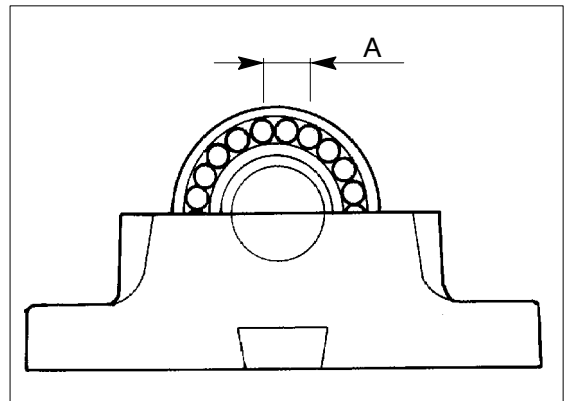
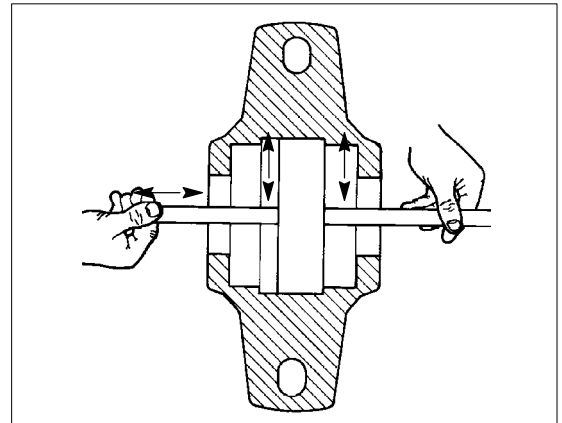

Fig. 31. Push the feeler gauge between the rollers and outer ring.
Fig. 32. Measuring the clearance.
2. Remove the fastening bolts (M10) (7) and the upper bearing housings (6).
5. Bend the claw of the securing ring (3) out from the notch on the axle nut and open the axle nut.
6. Remove the spacer ring (3) if the bearing is at the feeder side.
7. Measure the radial clearance on top of the bearing between the rollers and outer ring with a feeler gauge. The clearance should be 0.02–0.03 mm (0.008–0.012"). Measure the clearance by pushing the feeler gauge between the rollers (point A, Fig. 31.) through the bearing and then moving the gauge back and forth between the rollers and outer ring – see Fig. 32. Do not force the feeler gauge through the clearance.
8. If the clearance exceeds 0.03 mm, bend the claw of the securing ring (2) out from the notch on the axle nut (1).
12. Install the upper bearing housing and tighten the bolts (6) to 50 Nm (36 7/8 lbf).